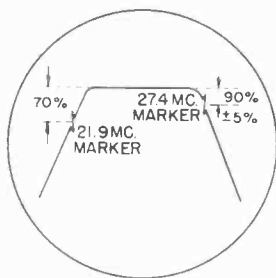

FIG. 11
5. Tune sweep generator to 24 Mc. with a 10 Mc. sweep and adjust slugs on video IF transformer T57 for a symmetrical response curve as shown in Figure 11.